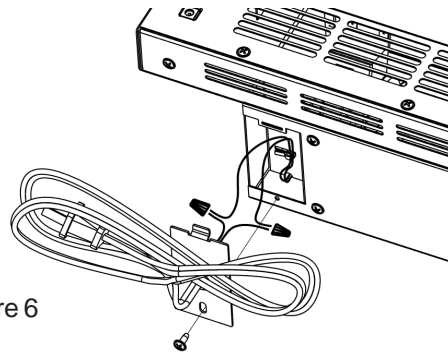

Figure 6
6. Take the cables out from the junction box, loosen the two wire twist nuts and remove the cord set. (FIGURE 6.)